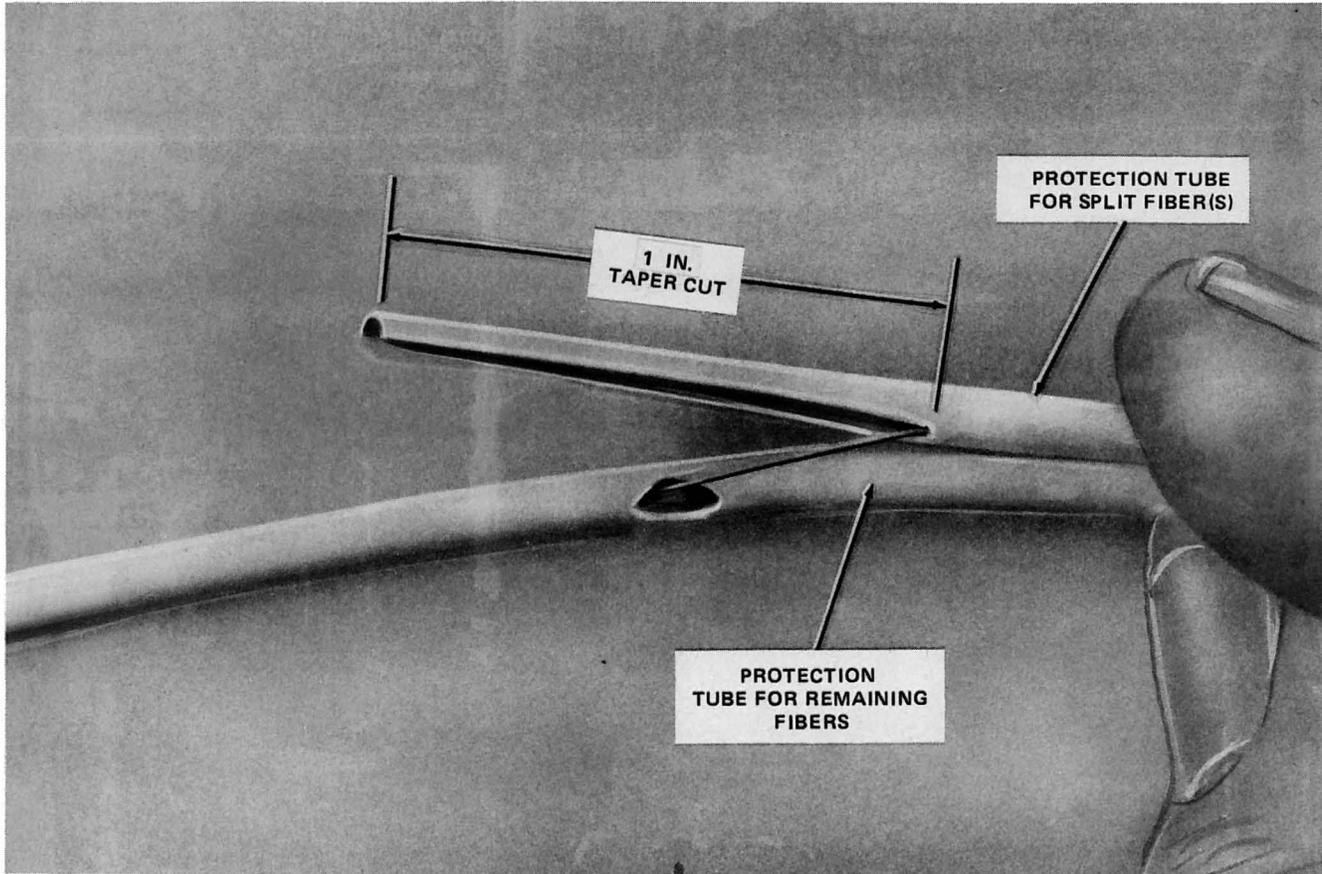

Fig. 63—Placing Split Fibers Into Prepared Protection Tube
8.13 Select another 17-inch long protection tube, cut 3 inches off one end, and discard the 3-inch section. Make a 1-inch long taper cut at the end of the remaining 14-inch tube. Thread the split fiber(s) through this tube, as shown in Fig. 63.